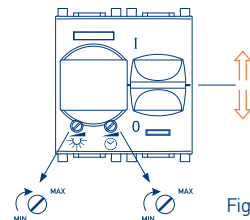

Fig. 5
2. After power is on, it is necessary to adjust the brightness level at which the device is activated and the working time (Fig. 5). The device is equipped with protection for not turning on the light on a daylight. With trimmer (3) set up in what daylight should activate passage of people. At a desired level of daylight turn on a switch (2), at Fig. 1 and adjust the trimmer (3) until the device is deactivated. Working time is set with a trimmer (4) in the range from 10 sec to 10 min. After this time, in automatic mode, the device switches itself off, if no one activates the device by passing.
3. The role of switch (5)
A switch has 3 positions: 0, middle and I (Fig. 5). In position 0 the device is always turned off, in the middle position the device is in automatic mode (activates only by passing the person), and the position I - device is always on. When the device is in automatic mode, illuminates LED indication (6).